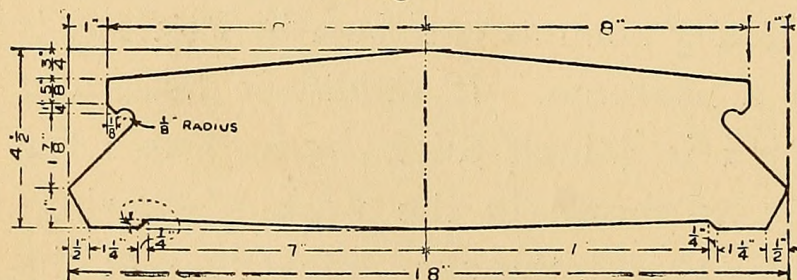

FIG. 118. — Detail of Back of Towel-rack shown in Fig. 111.
**A Towel-rack.** Cut the back board out of  $\frac{1}{2}$ -inch stuff, laying it out according to the working-drawing (Fig. 118), and procure a short brass extension curtain-rod for the front. The rod will be furnished with screw-hooks with which to fasten it to the board; these should be screwed in so the rod will set 1 inch away for a necktie rack or 3 inches away for a towel-rack.